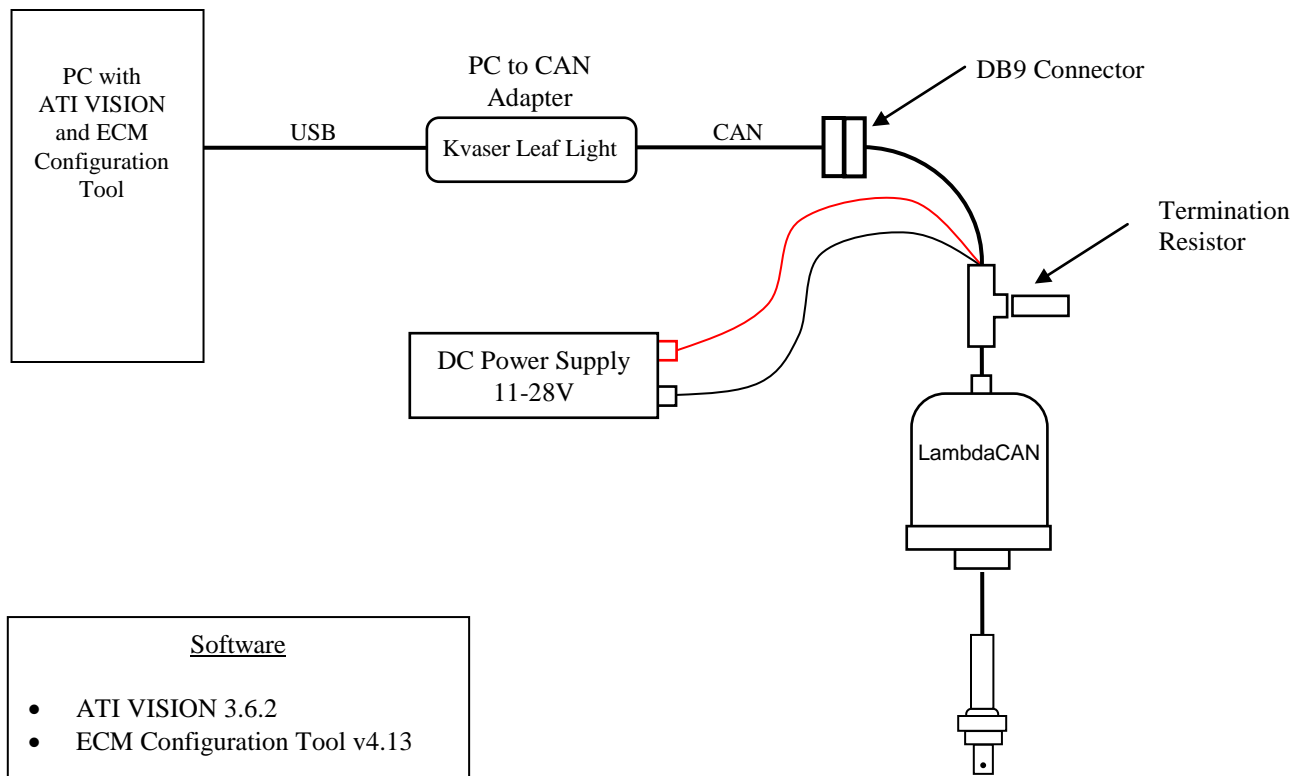

Figure 1: Equipment Schematic Layout
A typical hardware configuration is shown in Figure 1. In this example, a Kvaser Leaf Light CAN-USB adapter is used. Other supported adapters have a similar procedure. Connect the DB9 CAN connector of the LambdaCAN to the PC to CAN adapter. Supply 11-28V DC (5A min. supply) to the LambdaCAN. For the case of an ECM analyzer (ex. Lambda 5220), connect to CAN port on display head. Do not directly connector to modules.
1. Connect hardware as shown in Figure 1. Ensure LambdaCAN bi-color LED indicator near sensor connector is visible (green during normal operation, flashing red without sensor attached).